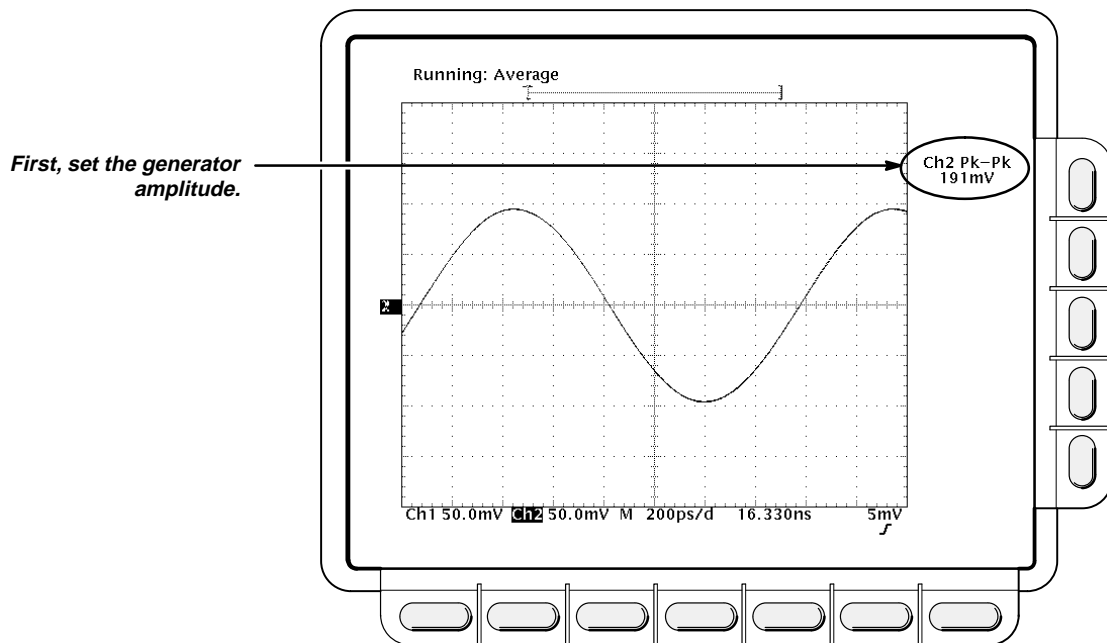

Figure 1-12: Generator Settings for Delta Time Measurement Between Channels
- Adjust the generator amplitude for a **Pk-Pk** readout of 191 mV. See Figure 1-12.